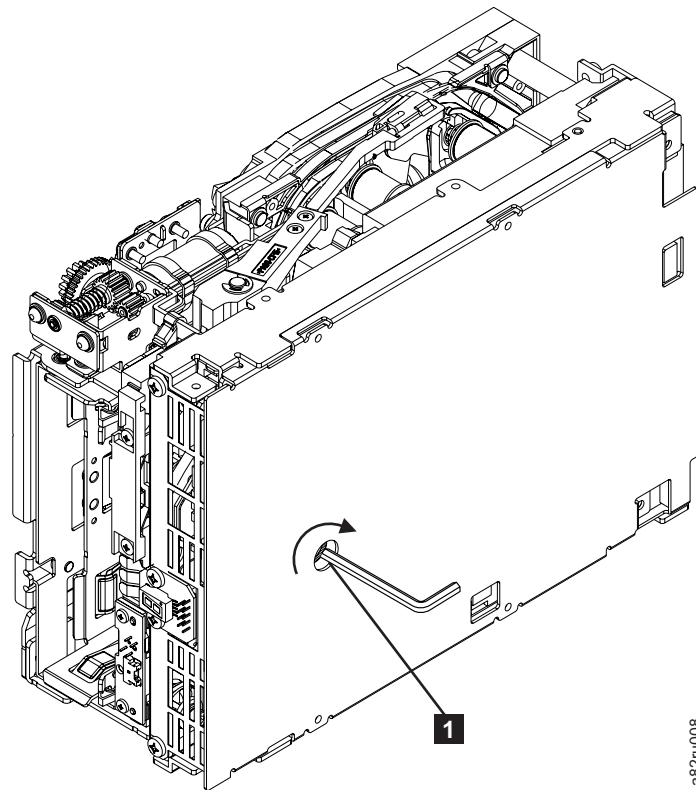

Figure 35. Using hex wrench to rewind tape into cartridge
- \_\_\_ Step 3. From the bottom of the drive, locate the access hole ( **1** in Figure 35).
**Note:** Be sure to keep tension on the tape as the LBA is drawn into the cartridge by using a hex wrench as shown in Figure 35 on page 102.